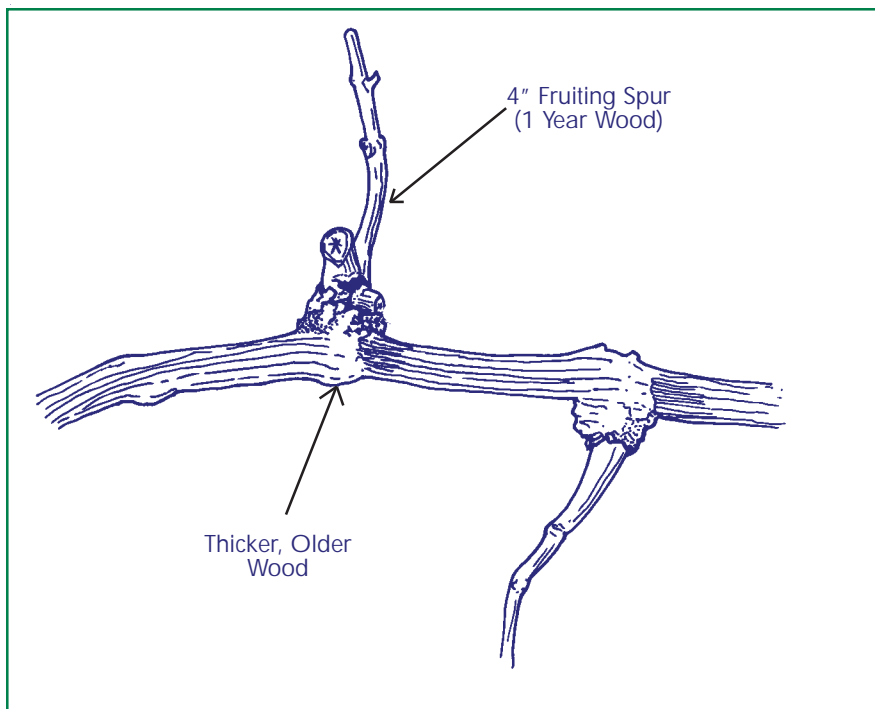

Figure 8. One-year wood and spurs.
from buds set on the previous year's growth (Figure 8). Shoots arising from older wood usually are unfruitful. Pruning principles are the same whether you are training your muscadine vines to a vertical wire (VW) trellis or a Geneva Double Curtain (GDC). Most important is to leave an appropriate amount of last year's wood on the vine. One-year-old wood is the only source of fruitful shoots on the plant. The only difference in the VW and GDC is the arrangement and number of fruiting arms. The VW system has two permanent fruiting arms or